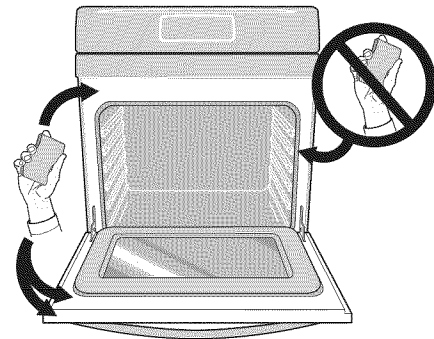

Figure 20: Clean around the oven door gasket
9. Wipe oven cavity and bottom. Do not clean oven door gasket (Figure 20).